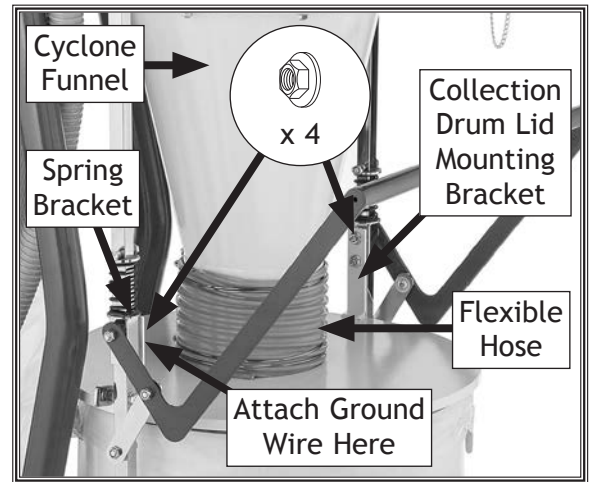

Figure 18. Collection drum lid and related components installed.
12. Place (2) hose clamps around flexible hose, then slide hose over port on collection drum lid and tighten clamp (see **Figure 18**).
13. With collection drum lid mounting brackets facing up, orient lid so dust port, flexible hose, and spring brackets align (see **Figure 18**).
14. Attach flexible hose to cyclone funnel and secure with (1) hose clamp (see **Figure 18**).
15. Connect ground wire to spring bracket stud, then secure lid and ground wire using (4) $\frac{5}{16}$ "-18 flange nuts (see **Figure 18**).